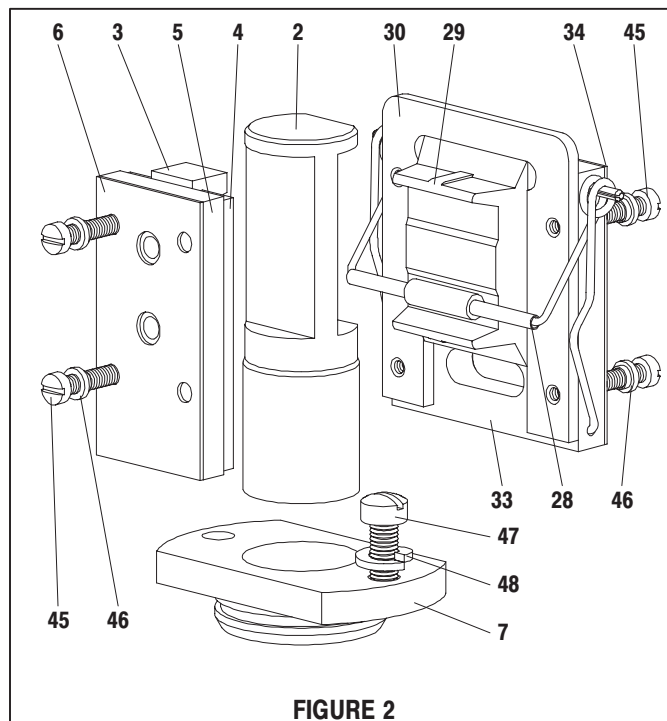
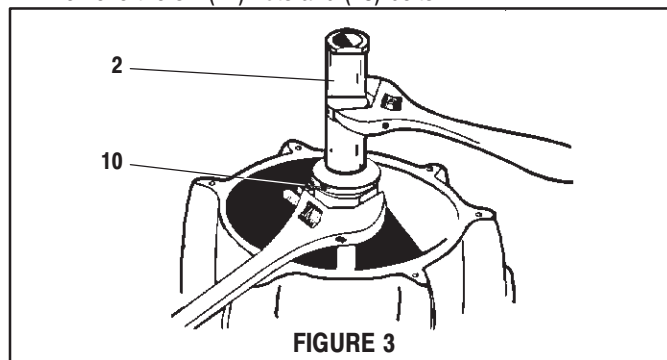
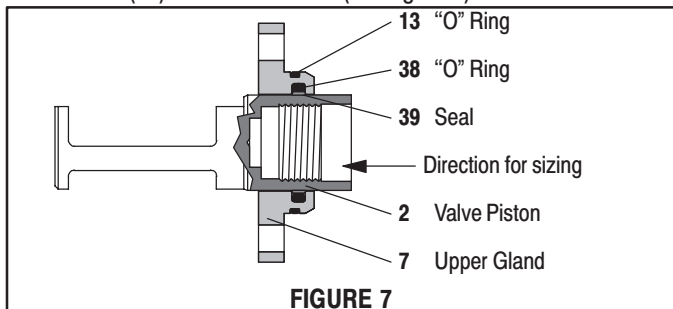

FIGURE 2
FIGURE 3
FIGURE 7
5. With a screwdriver, unhook the (28) insert spring assembly from the bottom of the (33) valve plate and pin assembly (see figure 2).
6. Remove the (28) insert spring assembly from the pins in the top of the (33) valve plate and pin assembly.
7. Pull the (2) valve piston upward until the (7) upper gland has pulled out of its chamber.
8. Remove the (7) upper gland.
9. Remove the (39) seal, (38) "O" ring and the (13) "O" ring from the (7) upper gland (see figure 7).
10. Disassemble the (2) valve piston from the (10) piston adapter, as shown in figure 3.
11. Remove (2) valve piston.
12. Pull the (10) piston adapter upward and grasp the (11) extension rod below the (10) adapter. Push the (10) piston adapter down on the (11) extension rod. Remove the (37) washer and (11) extension rod.
24. Grease and carefully push the (2) piston into the (7) upper gland to size the (39) seal and remove (see figure 7).
27. Place the 90350 installation tool over the (11) extension rod with turned diameter down and the chamfer up.
28. Fit the turned diameter of the 90350 installation tool into the bore in the bottom of the (35) head assembly.
29. Place the (10) adapter down over the (11) extension rod with the threads upward.
30. Insert the (37) washer into the groove in the top of the (11) extension rod.
31. Pull the (10) adapter up and around the (37) washer.
32. Place the (8) upper washer over the (11) extension rod and onto the (10) adapter.
33. Clean the threads with solvent and put Loctite 271 on the threads of the (2) piston. Screw the (2) piston into the (10) adapter and tighten, as shown in figure 3.
34. Push the assembled (10) adapter and (2) piston down through the 90350 installation tool until they bottom.
36. Install the (7) upper gland over the (2) piston and push down, being careful to retain the (39) seal in the "O" ring groove.
37. Align the two bolt holes and secure the (7) upper gland to the (35) head assembly with the two (47) screws and two (48) lock washers (see figure 2).
38. Insert the (28) spring in the (35) head assembly, with the hooks down and the nylon roller toward the (2) piston (see figure 2).
39. Thoroughly grease and insert the (3) pilot insert, the two (4) valve guides, the (5) valve plate and (6) gasket into the (35) head assembly (see figure 2).
40. Thoroughly grease and insert the (29) valve insert into the (35) head assembly (see figure 2).
41. Thoroughly grease and insert the (34) valve plate gasket and the (33) valve plate and pin assembly between the insert and the (35) head assembly with the two pins in the (33) valve plate up (see figure 2).
42. Hook the round coils in the (28) insert spring assembly over the pins in the (33) valve plate and pin assembly (see figure 2).
43. Hook the bottoms of the (28) insert spring assembly into the holes on the side of the (33) valve plate and pin assembly (see figure 2).
44. Insert the (30) valve guide against the face of the (33) valve plate and pin assembly. The legs of the (30) valve guide should be down with the leg having the threaded hole the farthest from the bottom toward the air inlet in the (35) head assembly.